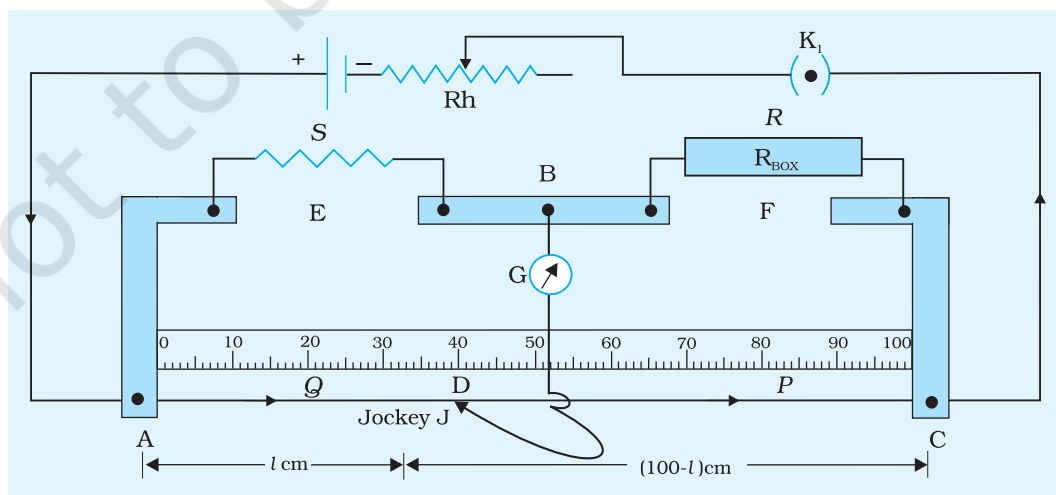

Fig. E 2.1 A metre bridge
It consists of one metre long constantan wire AC of uniform cross-sectional area mounted on a wooden board with a scale (Fig. E 2.1). The two ends of the wire are attached to terminals A and C. Thick metal strips bent at right angles are used to provide two gaps E and F to connect resistors forming a Wheatstone's
The unknown resistance S is connected in the gap E and a resistance box (R_{Box}) in gap F of the metre bridge. The terminal B is connected to one terminal of the galvanometer G . The other terminal of the galvanometer is connected to a jockey J which slides along the wire AC. A source of dc current is connected between A and C through a key K_1 so as to provide a constant potential drop along AC (Fig. E 2.1).
3. Set up the circuit as shown in Fig. E 2.1 with unknown resistance wire of known length in gap E.